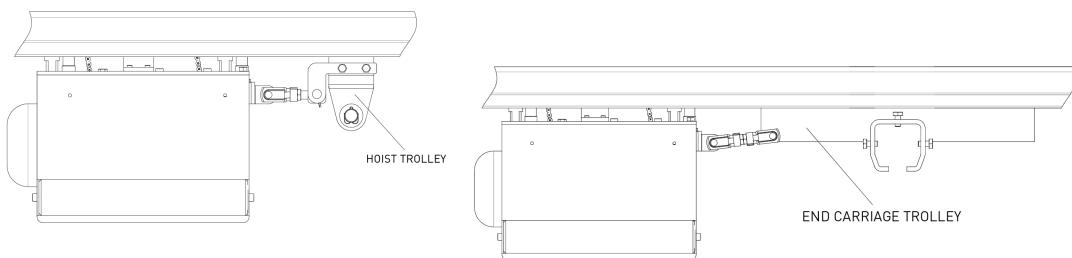

FIGURE 5
STEP 7: At this step, connection between hoist trolley and end carriage is done. Then the track end stops must be re-installed. See Figure 5.